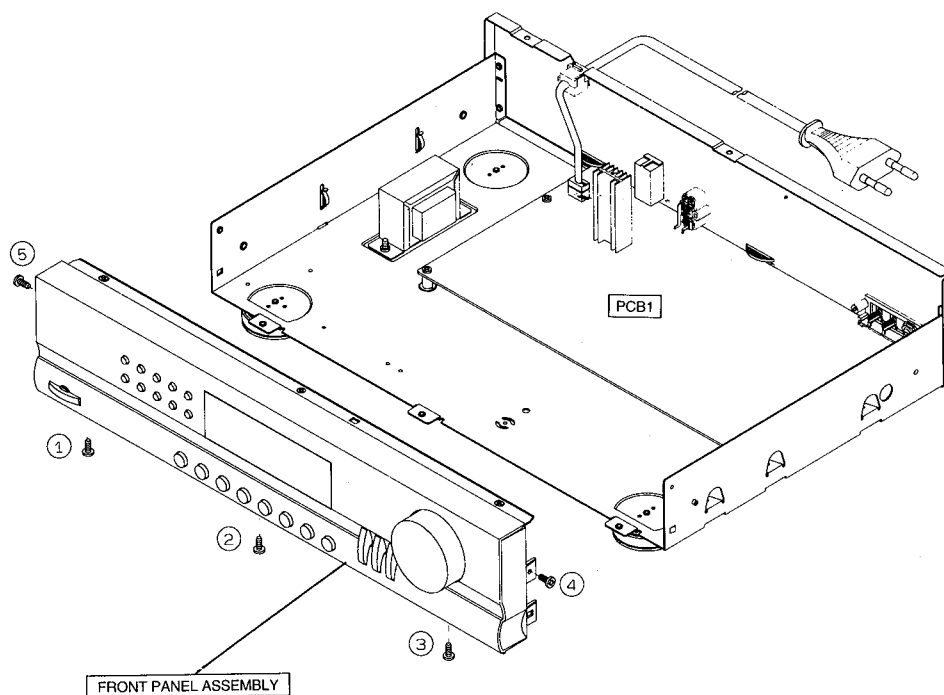

Fig. 2
2. Remove screws ① to ⑤ in Fig. 2.